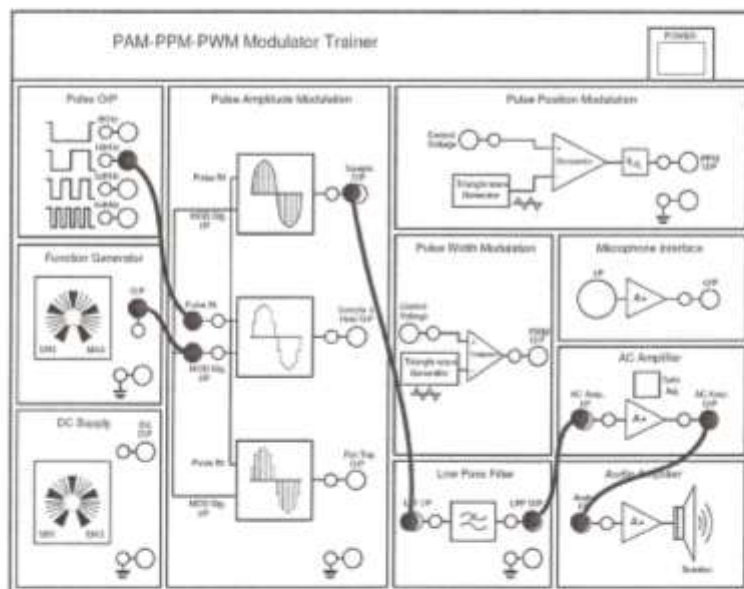

Fig. 18
1. Connect the circuit as shown in Fig 18.